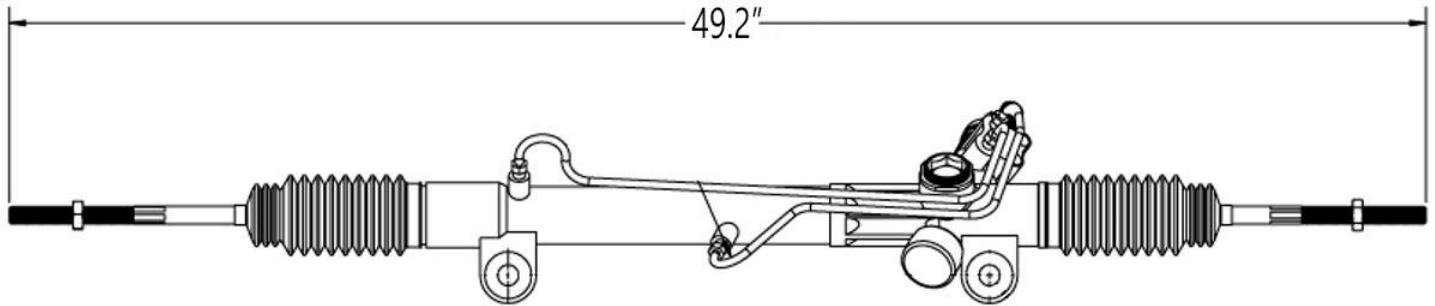

Figure 11
14. With anti-seize applied to the threads, thread the rod end into the lower control arm to the jam nut until approximately seven threads are showing between the jam nut and the rod end. **(Figure 11)** Leave the jam nuts loose until the arms are installed to allow alignment with the mounting bolts.
With the tie rods level, measure end to end as shown in **Figure 11**. If the overall length is greater than 49.2" cut the inner tie rod ends equally to get 49.2" overall length. Install the jam nuts onto the tie rods, and make the cuts-with a metal hacksaw or cut off wheel. Once cut, clean up the threads at the cut mark with a file and unthread the jam nuts to clean the threads. Proceed with the remainder of the install.